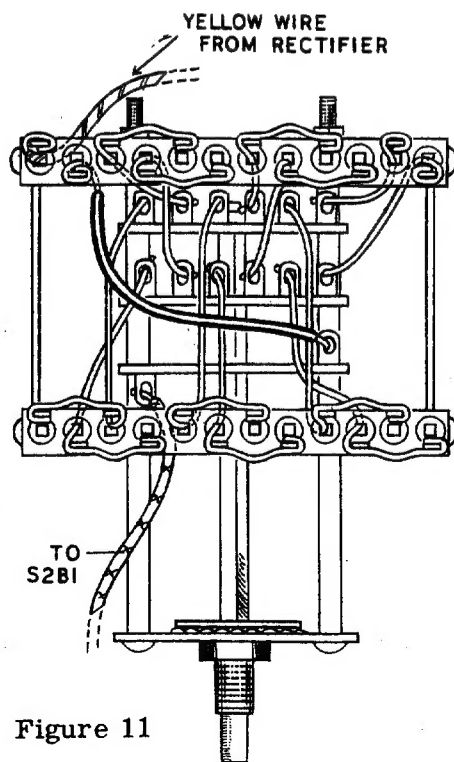

Figure 11
NOTE: To make the wiring easier to follow, the switch will be wired in two parts corresponding to the two halves on either side of the switch posts and the ring bracket. Also note the switch and ring numbering illustrated in Figures 8, 9 and 12. The wiring will follow a system based on the switch deck and number. For example, S1D4 refers to the #4 terminal on the range switch, middle deck. B8 refers to the #8 terminal on the B ring. In this particular case, the wire will continue on to B10. Where wires connect in this manner, care should be taken to avoid the in-between terminal B9 as shown in Figure 11. Although bare wire is used throughout the switch wiring, there is ample space to arrange wires to avoid each other. Thus the switch wiring may be done for the most part without the use of spaghetti, resulting in a much neater appearance. The wiring from ring to switch can best be accomplished by feeding the wire through the hole in the ring terminal lug until connection can be made to the switch terminal. Connect to switch terminal, arrange the wire properly to clear other wires or terminals, and finally wrap once around the ring terminal.
( ) Refer to Figure 11 for the following wiring.
NOTE: In the following wiring where connections are made to two terminals on the rings, the easiest method of doing so is as follows. Run the bare wire through the hole in the first terminal mentioned and connect to the proper switch terminal. Arrange the wire to clear. On the other end, bring the wire around the outside of the lug as shown in Figure 11, to the last terminal mentioned and wrap one turn around the terminal. Make sure the wire clears the terminal between the two connections.
- ( ) Connect a bare wire from B3 (NS) to S1F2 (S) and to B5 (NS).
- ( ) Connect a bare wire from B4 (NS) to S1D2 (S) and to B6 (NS).
- ( ) Connect a bare wire from A5 (NS) to S1F3 (S) and to A7 (NS).
- ( ) Connect a bare wire from A6 (NS) to S1D3 (S) and to A8 (NS).
- ( ) Connect a bare wire from B7 (NS) to S1F4 (S) and to B9 (NS).
- ( ) Connect a bare wire from B8 (NS) to S1D4 (S) and to B10 (NS).
- ( ) Connect a bare wire from A9 (NS) to S1F5 (S) and to A11 (NS).
- ( ) Connect a bare wire from A10 (NS) to S1D5 (S) and to A12 (NS).
- ( ) Connect a bare wire from B11 (NS) to S1F6 (S).
- ( ) Connect a bare wire from B12 (NS) to S1D6 (S).
- ( ) Connect a bare wire to S1B6 (S). Cover with a 2 3/8" length of spaghetti and connect to B2 (NS). Run wire as shown in Figure 11.